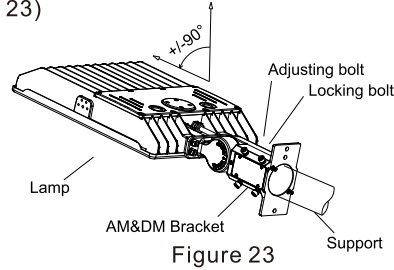

Figure 23
- Step 2: Loosen the 4 locking bolts on the slip fitter, connect the wire correctly and put the wire into pole. Then fasten the locking bolts between slip fitter and the pole. (Figure 23)
- Step 3: Loosen the fixing bolts and adjusting bolts, align the fixture to required angle. Tighten adjusting bolt and fixing bolts after the angle is confirmed. (Figure 23)
Notice: Adjustable angle is 0~+/-90° (Figure 23)